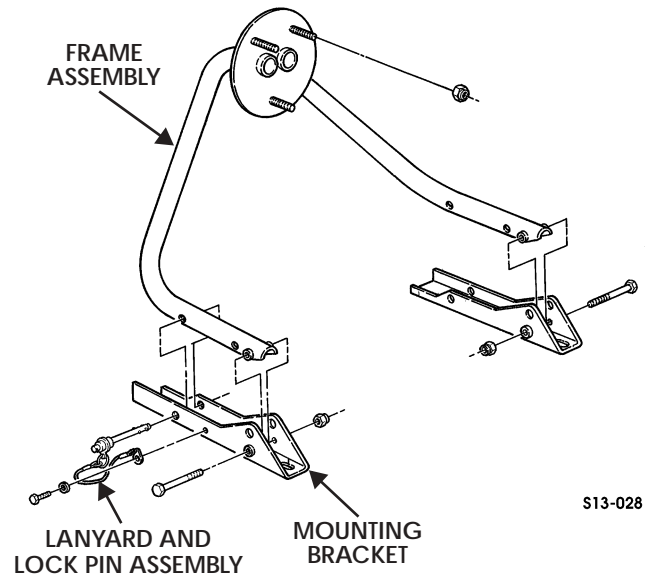

Figure 13-31: Frame Assembly
4. Remove two self-tapping screws, lockwashers, and two lanyard and lock pin assemblies from mounting brackets. Discard lockwashers (Figure 13-31).
3. Install frame assembly on mounting brackets with two capscrews and locknuts (Figure 13-31).